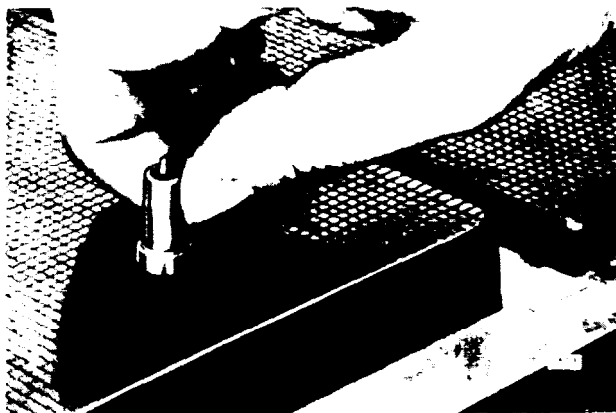

Figure 11C-33. Lapping Spray Tips on Lapping Blocks
**ASSEMBLE RACK AND GEARS.** Refer to Figure 11C-36 on page 11C-21 and note the drill spot marks on the control rack and gear. The proceed as follows: